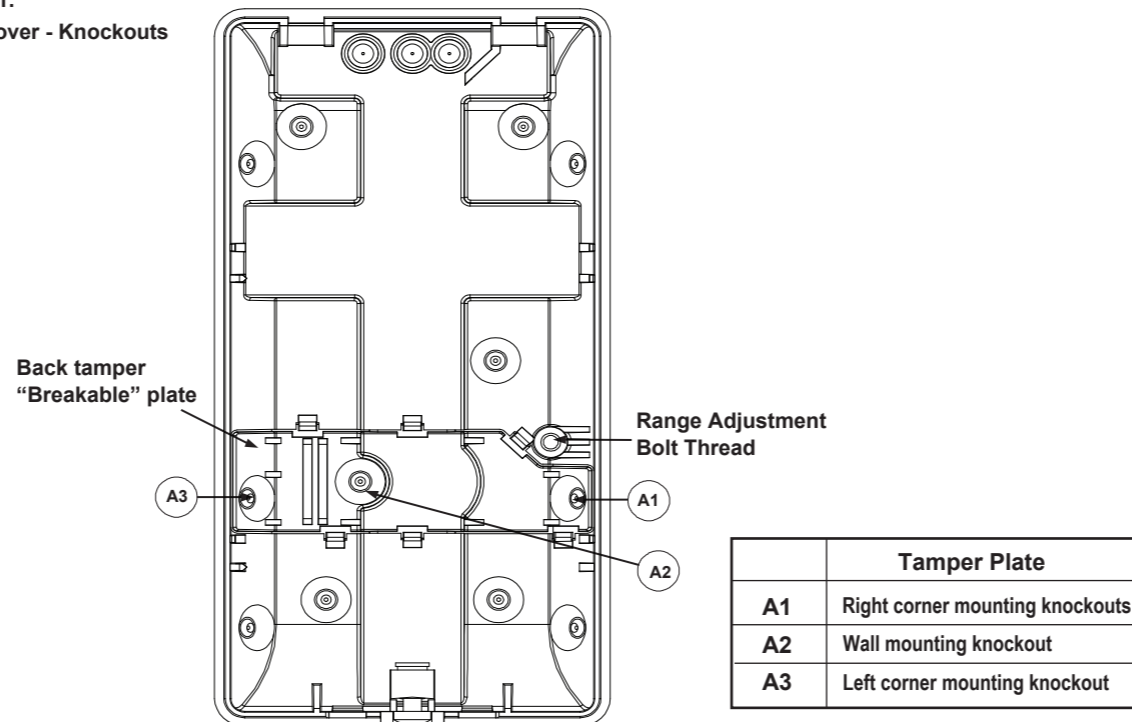

Figure 2.
6. Changing Lenses (see Figure 2).
6. Changement des lentilles (cf. Figure 2).